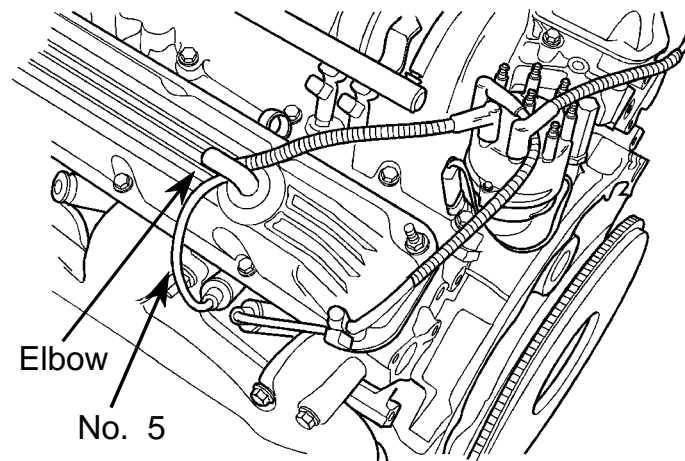

FIGURE 10
5. No. 5 Cylinder Plug Wire Routing (Figure 10)